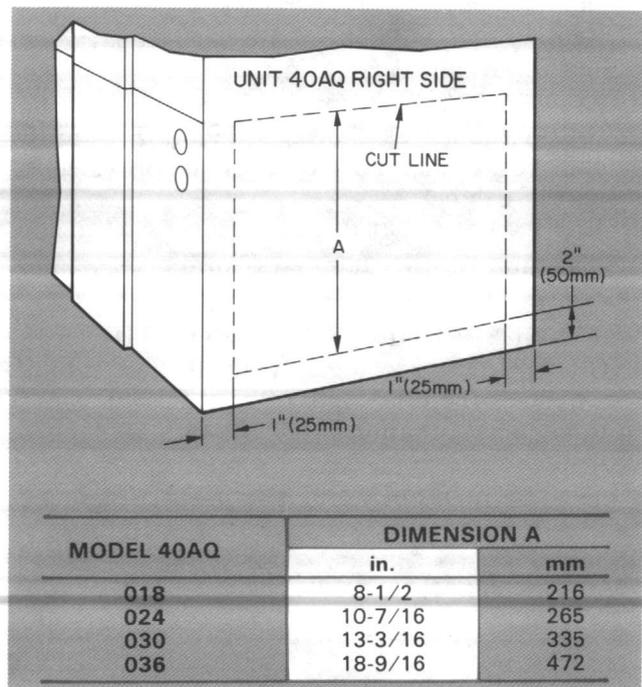

Fig. 5 — Right-Side Return Air Connection Details
RIGHT-SIDE RETURN (Fig. 5) — A return-air connection may be made directly into *the right side (only)* on 40AQ units. It is recommended that when this right side connection is made, the standard return air opening is blanked-off with sheet metal even where not required by local code.
2. Cut opening as indicated in Fig. 5.